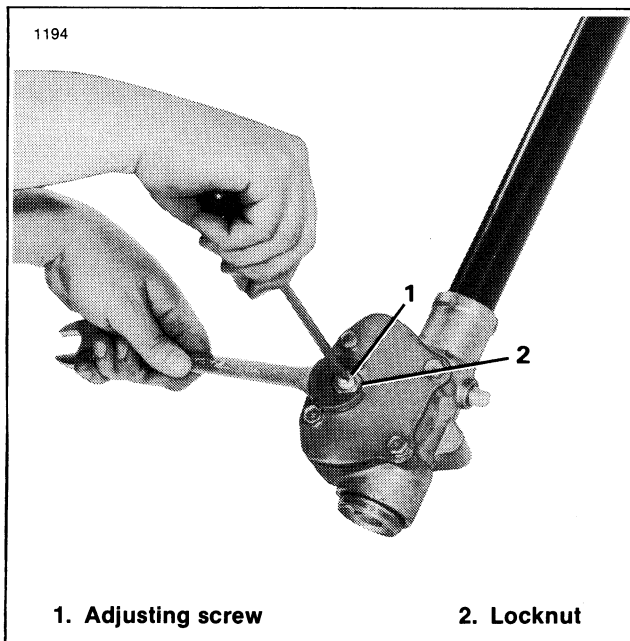

Figure 2-14. Making Over-Center Adjustment
6. See Figure 2-14. Loosen locknut (2) and turn adjusting screw (1) in just enough to eliminate play. It will be necessary to use a right angle screwdriver to turn screw (1) if adjustment is made with steering gear unit mounted in car.